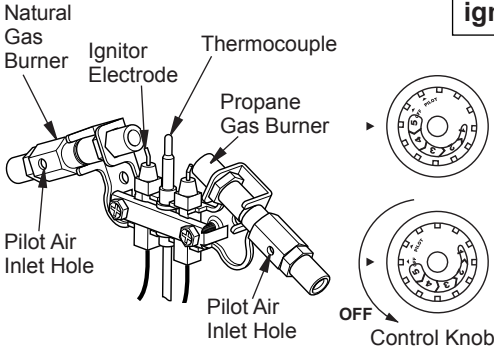

**Figure 21 - Control Knob in the OFF Position**
4. Wait five (5) minutes to clear out any air. Then smell for gas, including near the floor. If you smell gas, STOP! Follow "B" in the safety information above. If you do not smell gas, go to the next step.
5. Turn control knob counterclockwise ↶ to the PILOT position. Press in control knob for five (5) seconds (see Figure 21).
*Note: The first time that the heater is operated after connecting the gas supply, the control knob should be pressed for about thirty (30) seconds. This will allow air to bleed from the gas system. If pilot does not stay lit, refer to Troubleshooting, pages 23 through 26. Also contact a qualified service technician or gas supplier for repairs. Until repairs are made, light pilot with match.*